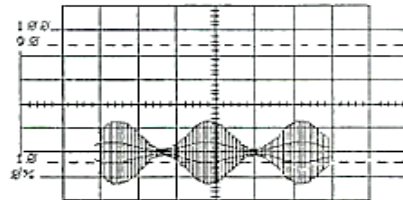

Figure 3-24.
16. Connect the oscilloscope channel 2 probe to the MIXER'S output. Adjust the MIXER'S balanced potentiometer knob until the output signal appears, as shown in Figure 3-24. This adjustment suppresses the 1455 kHz VCO-LO frequency in the output signal.